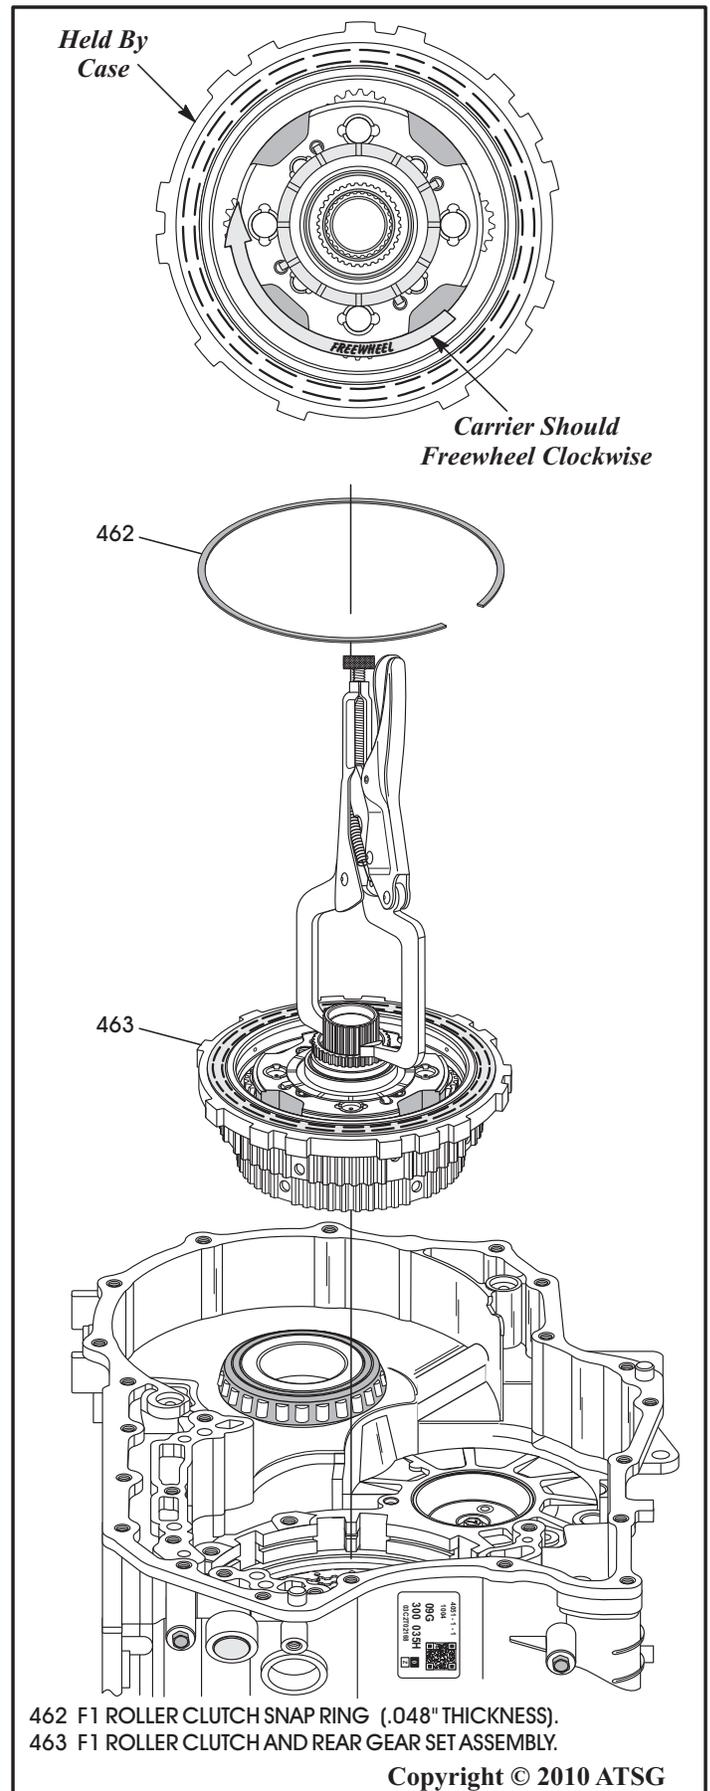

Figure 171
9. Install the pre-assembled F1 roller clutch and rear planetary gear set, as shown in Figure 171, by rotating back and forth until fully seated.
10. Once the assembly is fully seated, remove the vice-grips and install F1 roller clutch snap ring, as shown in Figure 171, with snap ring opening toward the transfer gear bearing race.
CAUTION: After installation, with your fingers in the planetary carrier pockets, the carrier should freewheel in a clockwise direction and lock in a counter-clockwise direction (See Figure 171).